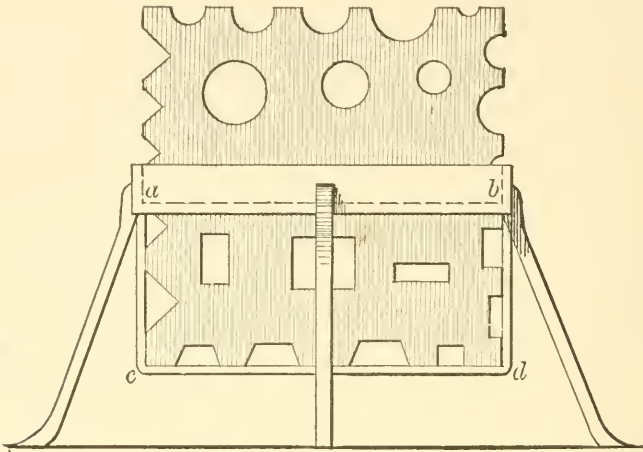

Fig. 118—Showing the Side of the Block when Upright.
*c, d.* Fig. 118 shows the side of the block when upright.—By WILL TOD.